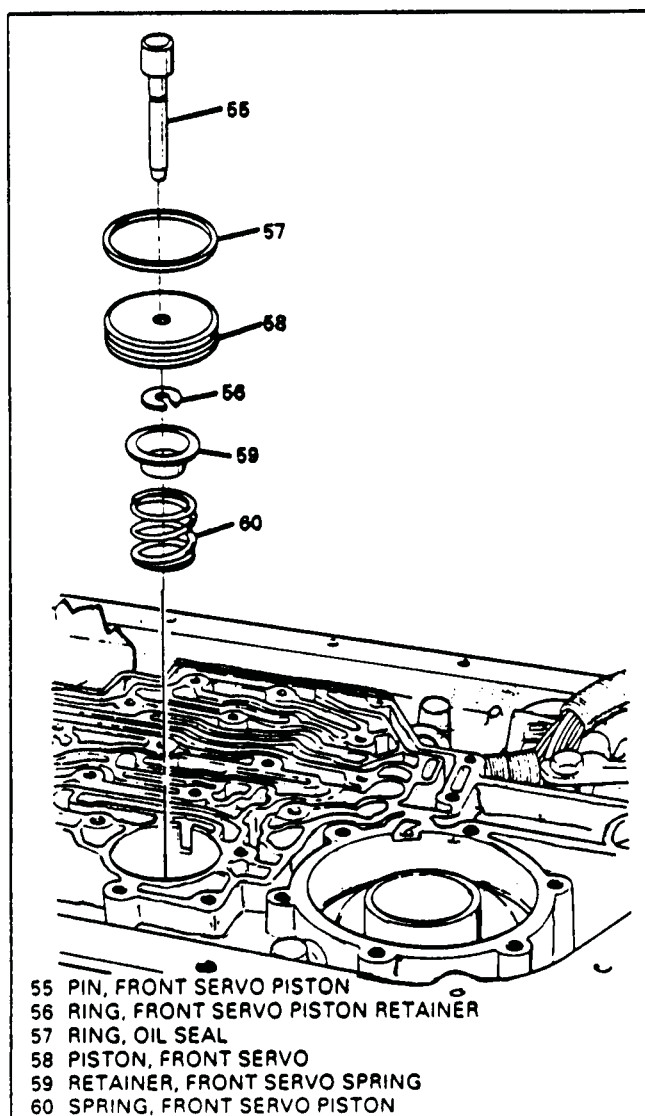

Figure 112
2. Install piston on the piston pin and install the "E" clip (See Figure 112).
3. Install the retainer onto the piston pin (See Figure 112).
5. Install the intermediate servo assembly into the case bore, and insure that the servo pin is engaged with the intermediate band (See Figure 112).